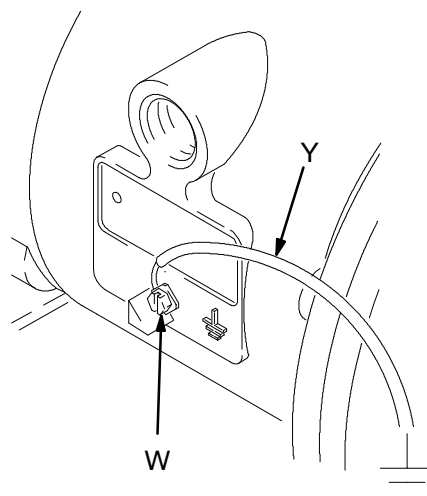

Fig. 1
*Polypropylene and PVDF are **not** conductive.* Attaching the ground wire to the grounding lug will ground only the air motor. When pumping conductive flammable fluids, **always** ground the entire fluid system by making sure the fluid has an electrical path to a true earth ground. See Fig. 1.
- *Air Motor:* Connect a ground wire and clamp as shown in Fig. 1. Loosen the grounding screw (W). Insert one end of a 12 ga (1.5 mm²) minimum ground wire (Y) behind the grounding screw and tighten the screw securely. Connect the clamp end of the ground wire to a true earth ground. Order Part No. 237569 Ground Wire and Clamp.